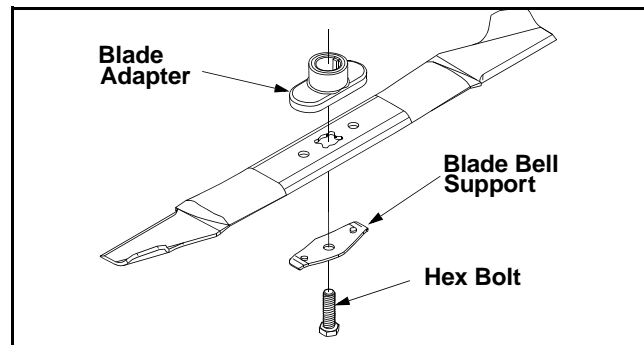

Figure 15
- Remove the bolt and the blade bell support which hold the blade and the blade adapter to the engine crankshaft. See Figure 15.